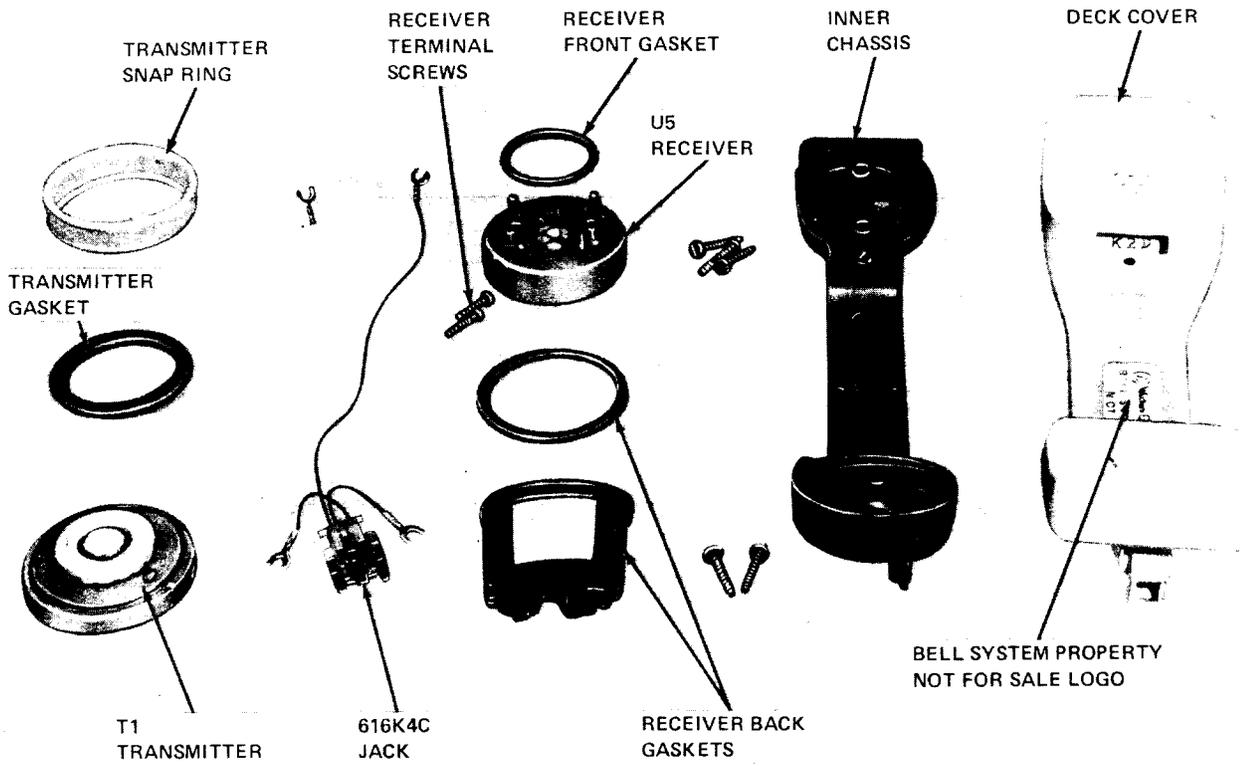

Fig. 11—K2D Breakdown of Inner Chassis
- Has K2D marking in hanger indentation (Fig. 11)